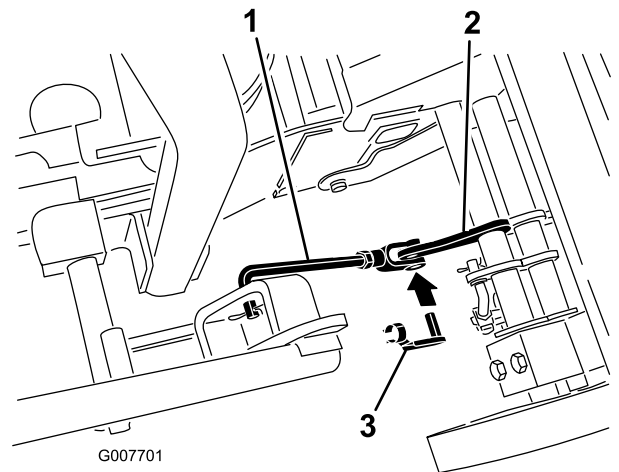

Figure 9
3. Install the bagger arm linkage to the bagger assembly with a clevis pin spring (Figure 9).